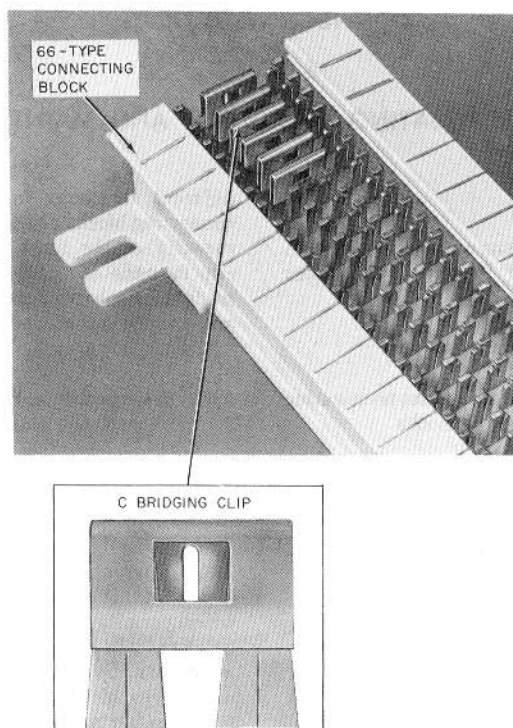

Fig. 17—C Bridging Clip, Installation Detail
adjacent terminals in the same row of 66-type connecting blocks, thereby increasing the multiplying capacity of the block (Fig. 17). The B bridging clip is made of stainless steel while the C clip is made of phosphor bronze. The clips are interchangeable and can be intermixed on the same block.
2.004 On Page 10, Fig. 17 is obsolete. A new Fig. 17 is provided in this addendum.